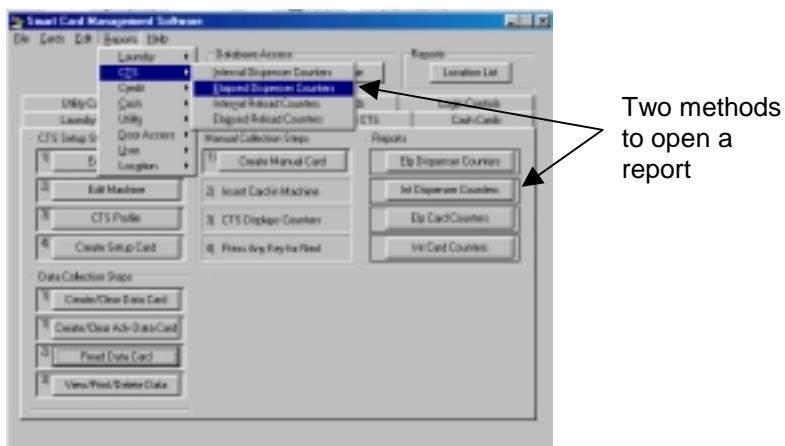

Figure 9.19 Opening a Cash CTS Report
1. Open a desired report in one of two ways (Figure 9.19):